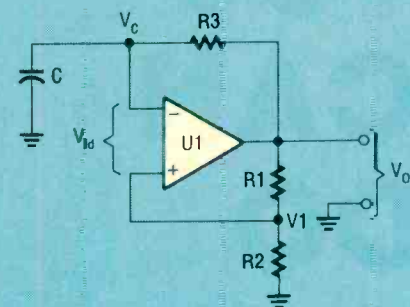

Fig. 4. The op-amp output indirectly charges  $C$  until its inverting input voltage becomes too high. Then the op-amp goes low and discharges  $C$  through  $R3$ .
Fig. 4. To install the mercury switch you must first solder a small piece of wire to one solder pad. Wrap the loose ends of the wire around the switch's case securely.
The special mercury switch must be mounted solidly to receive the vibration from the protected item. To do that, start by soldering a “U” shaped piece of wire to one of the switch’s solder pads, as shown in Fig. 4. Solder a piece of wire to the switch’s protruding rod and solder the wire to the other pad for the switch. Rest the switch’s case between the two ends of the U-shaped wire and twist the wire’s ends tightly together. If you have a very good flux such as Stay Clean, the case can be spot soldered to the wire. If you do solder the case, do it very quickly and be careful not to overheat it.
**A Square-Wave Generator.** Figure 4 shows the usual textbook circuit for an astable op-amp square-wave generator. The op-amp is used as a voltage comparator in the circuit and is